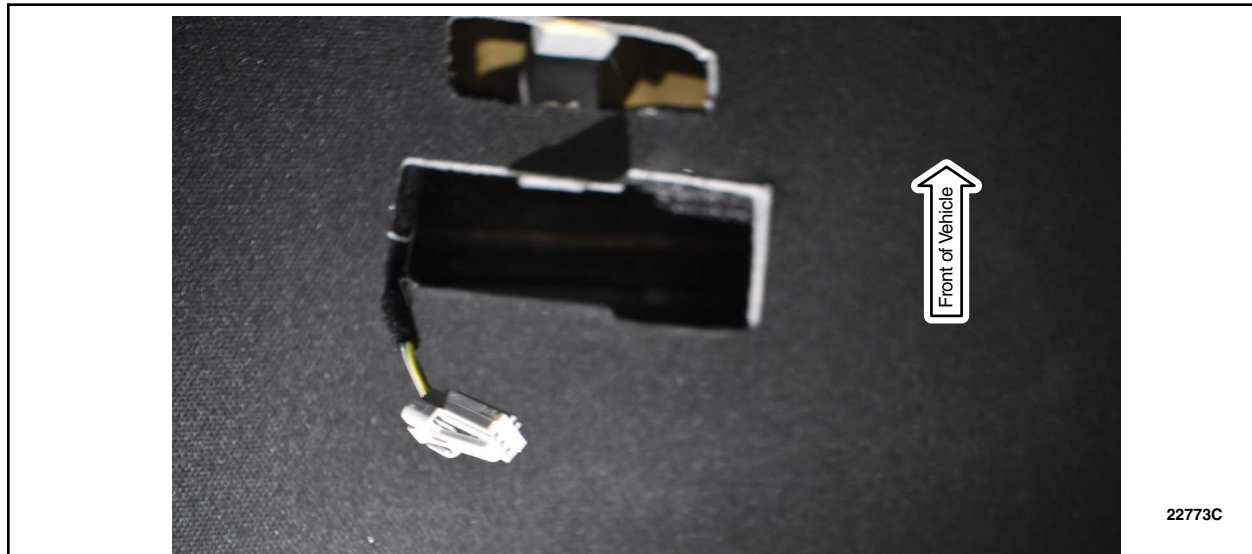

FIGURE 3
5. Move the lamp connector to the newly cut out slot. Connect the new cargo dome light. See Figure 3.